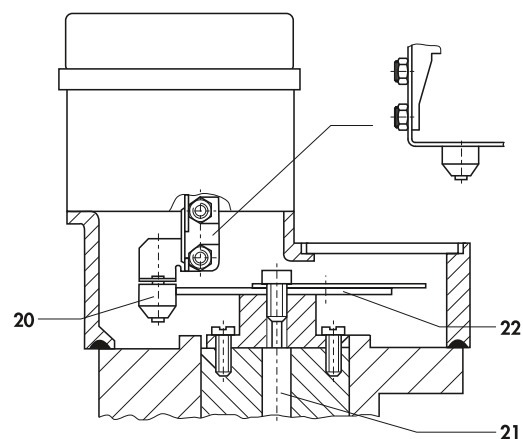

Fig. 14 · Transmission of rotary motion to the positioner
The travel is transmitted to the pick-up lever (1) via the pin (1.1) in globe valves. Whereas, in rotary valves (Fig. 14), a cam follower roll (20) is attached to the front end of the pick-up lever (1) which follows the rotary motion of a cam disk (22) on the actuator shaft (21). The force of the range spring (4) is changed by the linear motion of pick-up lever.